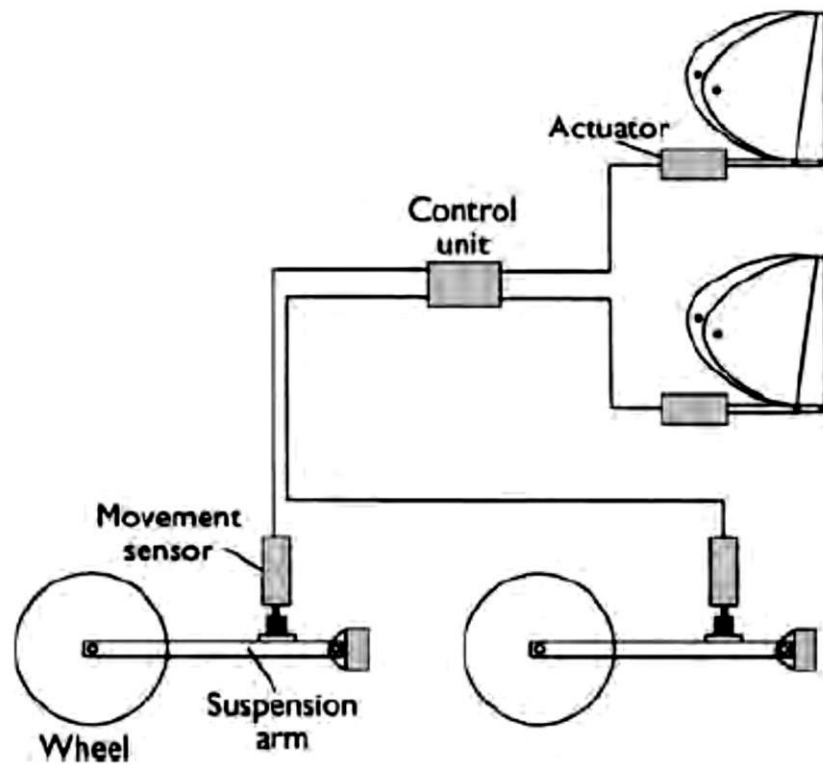

Figure 11.9 Automatic headlight adjustment
- An automatic system can be operated from sensors positioned on the vehicle suspension. This will allow automatic compensation for whatever the load distribution on the vehicle. Figure 11.9 shows the layout of this system. The actuators, which actually move the lights, can vary from hydraulic devices to stepper motors.